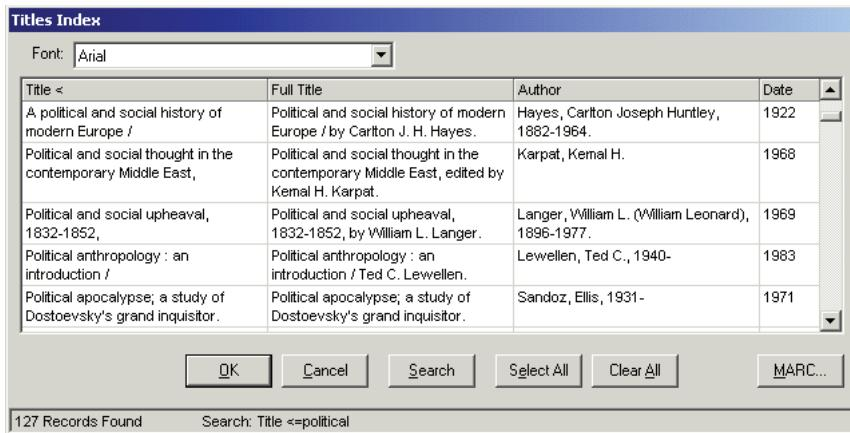

Figure 13-5. Title Index dialog box - MARC button displayed
- The **MARC** button on the **Titles Index** dialog box (Figure 13-5), which displays as a result of any non-Headings search done in Acquisitions. See Titles Index Dialog Box on page 2-25 for more information.